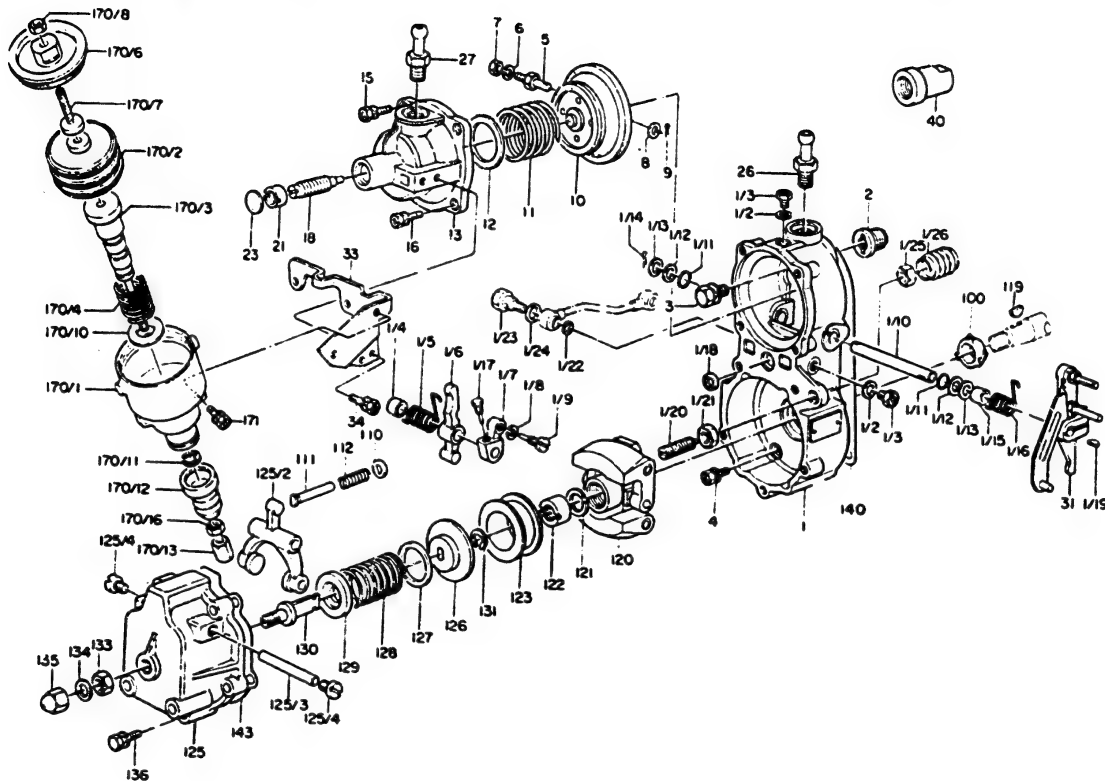
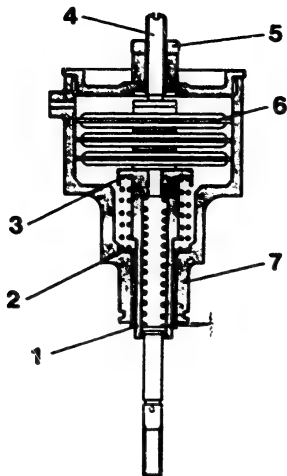

Fig. 17 Exploded view of the aneroid compensator-equipped RBD governor (MZ type)
Fig. 20
The sleeve (3) is incorporated into the housing (1) by the bushing (9), so that bellows extension can be transmitted to the control lever (31) (shown in Fig. 17) through the pushrod and cap (13). The bellows and springs (4) and (5) are adjusted by the setscrew (7), so that the distance between the housing (1) and snap-ring (11) (see Fig. 20) at sea level is as specified. (refer to Service Data).
Note: The figures parenthesized at the end of the description of each component refer to part nos. and key nos. given in Fig. 17.